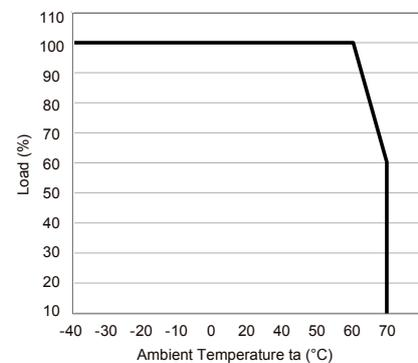

Figure 3: Load reduction
The tc-point (3) on the housing must not exceed a temperature of +80 °C in continuous operation under full load. Otherwise the device switches off. Therefore, when operating in high ambient temperature, reduce the load according to Figure 3.